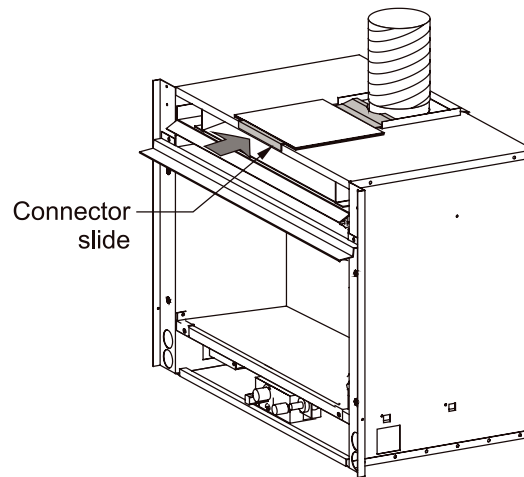

Figure 5b. Securing the chimney using the connector slide.
- Slide the Hotshot as far back as possible into the fireplace opening. Reach inside the opening above the Hotshot and insert the vent connector into the slot at the back of the fireplace. Push the connector slide back as far as it will go to secure the chimney liner in position. See **figure 5b.**